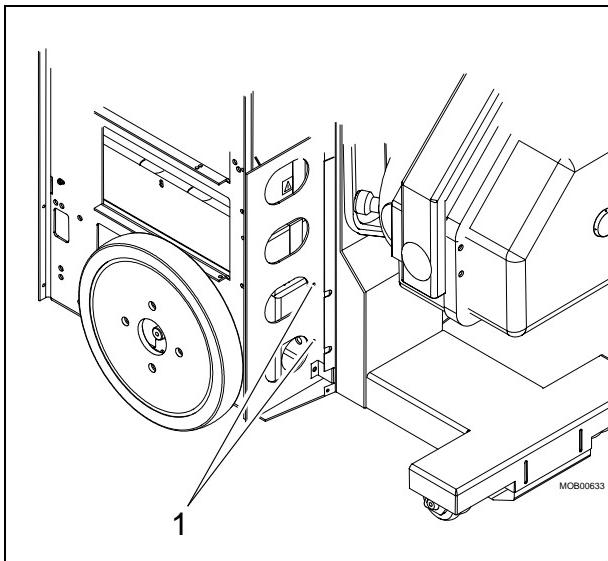

Fig. 14
- Remove the two back screws (pos. 1 / Fig. 14).